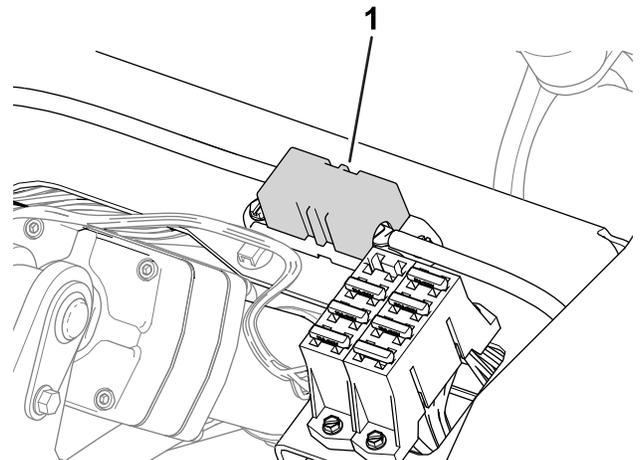

Figure 44
- The fuses for the right wheel motor (60 A) are located under the seat (Figure 44).